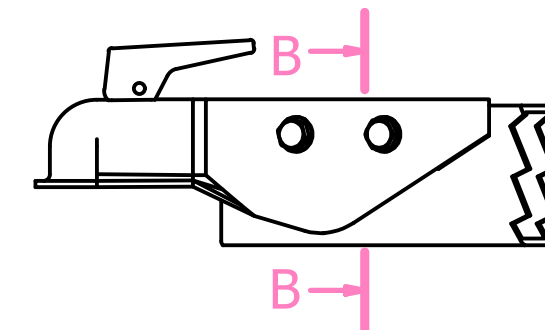

FIGURE 2: A-FRAME
2. Use (4) 1/2" grade 5 through bolts and locknuts with washers (See Figure 2). Torque to 35 ft-lbs, without excessive deformation of coupler or tongue trailer.